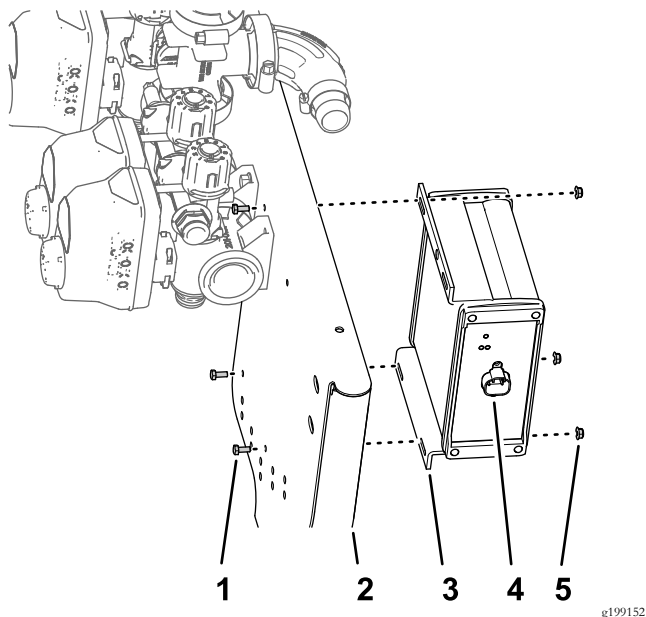

Figure 96
1. Align the ASC 10 sprayer controller to the forward side of the valve mount with the 4-pin connector outward (Figure 96).
2. Assemble the sprayer controller to the valve mount (Figure 96) with the 3 bolts (4 x 10 mm) and 3 flange locknuts (4 mm).